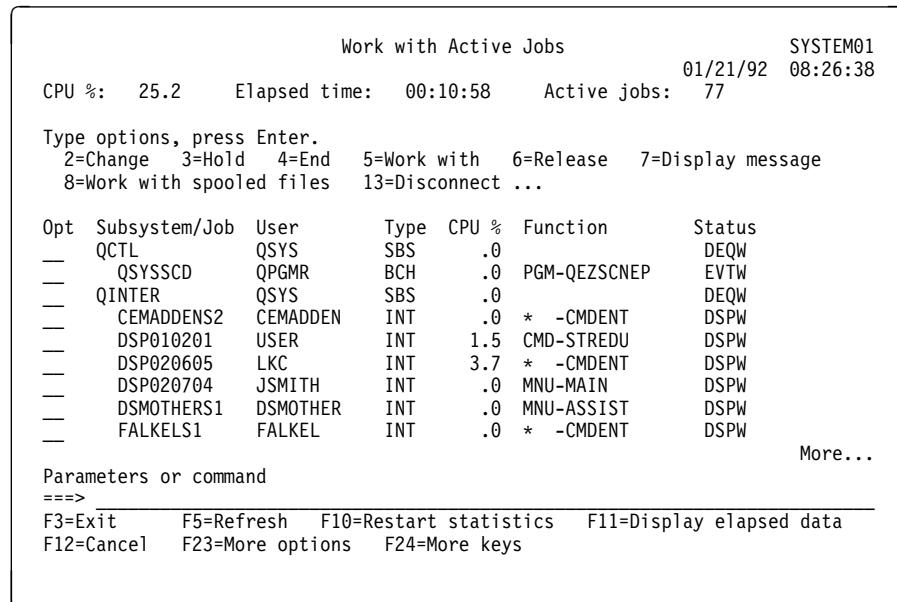

Figure 8-2. Work with Active Jobs Display - Status
1. Use the Work with Active Jobs (WRKACTJOB) command. Figure 8-2 on page 8-4 shows the Work with Active Jobs display.
To use the *CPU %* column on the Work with Active Jobs display to help you find a job with a problem, start with the status version of the display (Figure 8-2).